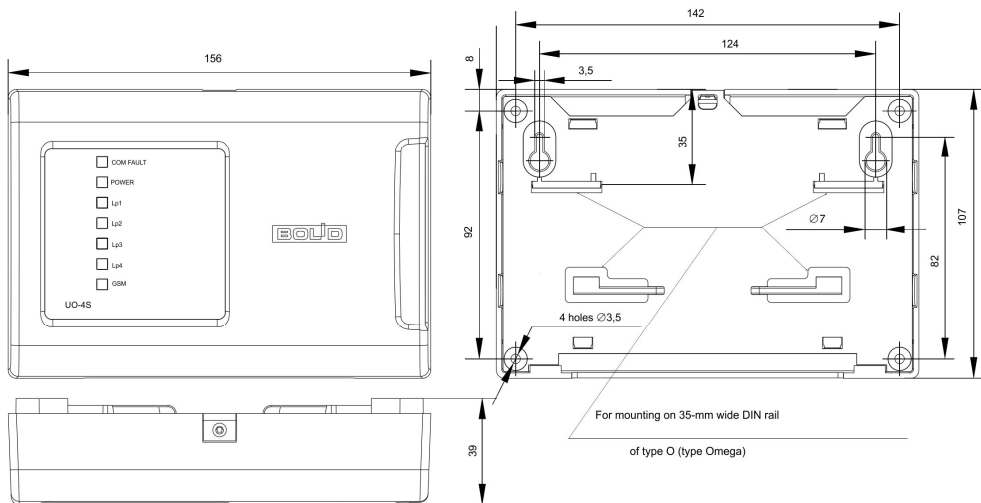

Figure 1. Overall and Mounting Dimensions of the UO-4S Revision 2
2.1 Figure 1 shows the appearance and overall and mounting dimensions of the UO-4S.